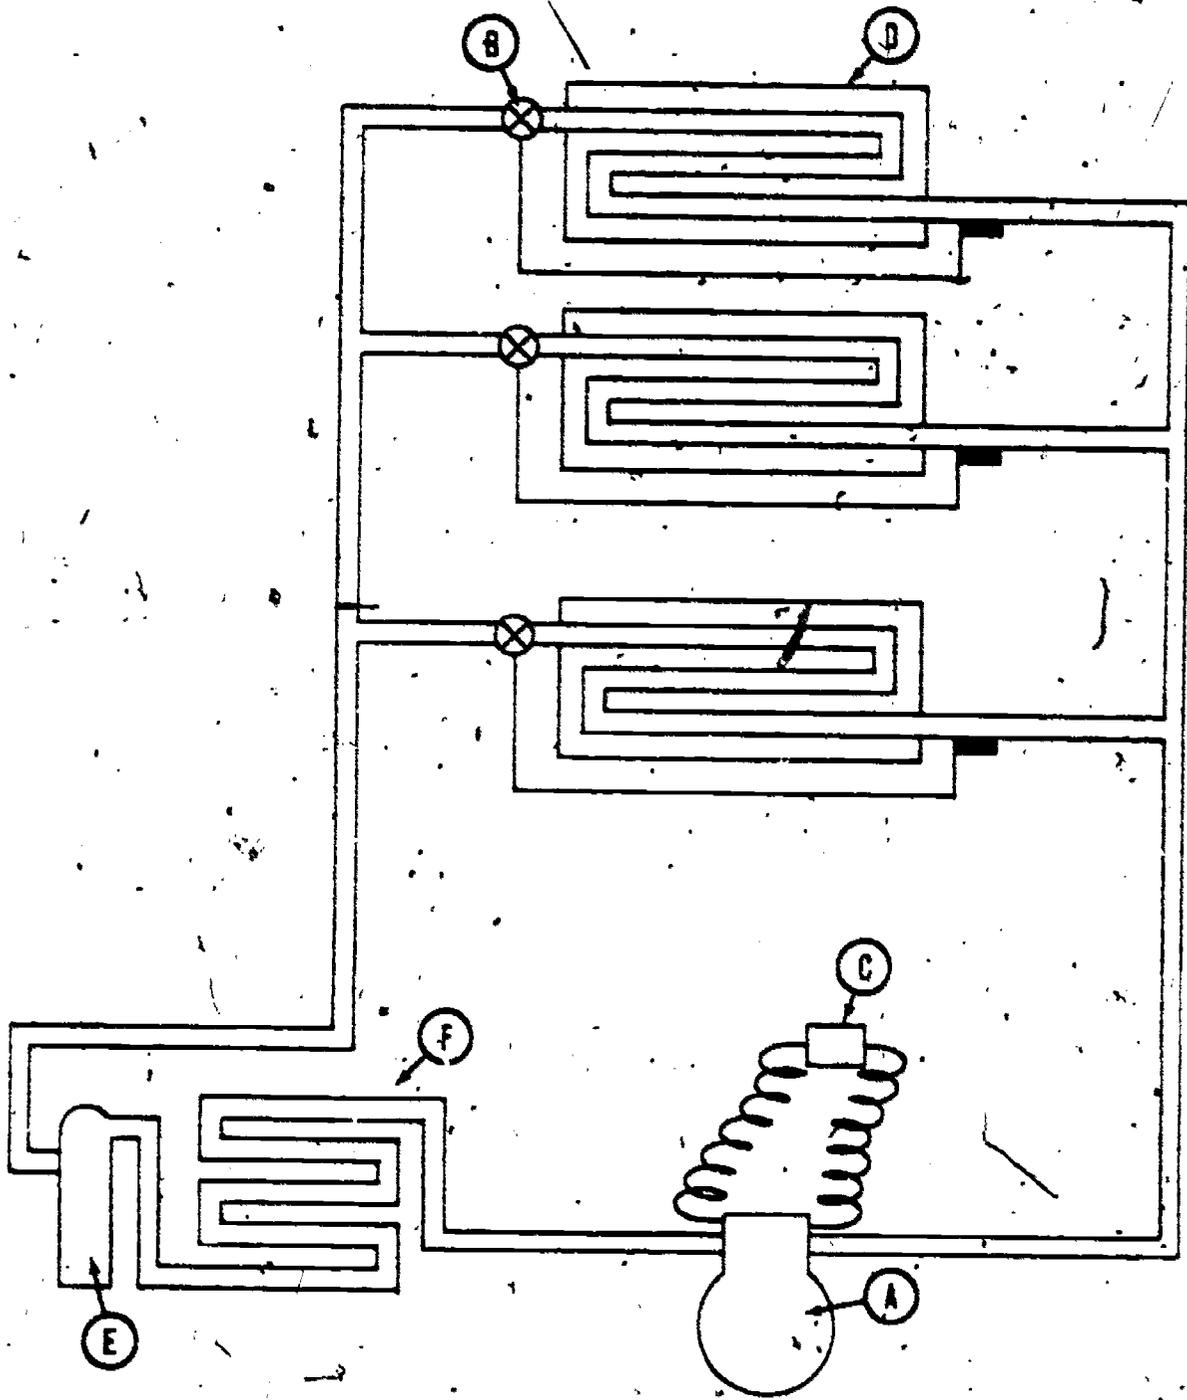

Figure 1. Single-Temperature Evaporator System
1. Use the schematic, figure 1, and identify the major components.